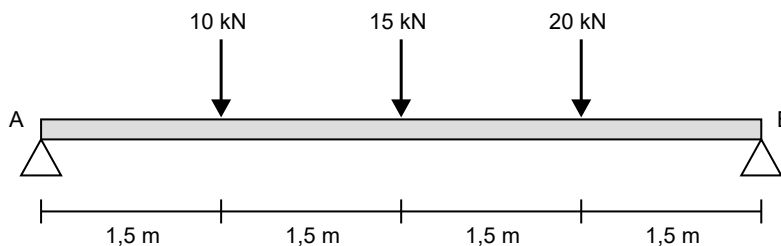

FIGURE 4.1
- 4.1** The simply supported beam AB in FIGURE 4.1 is 6 m long and carries three point loads. Ignore the mass of the beam. Calculate the reactions at A and B. (6)